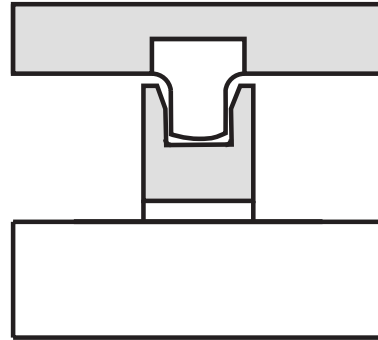

Figure 2-15
- No Torsional Effects:** All SB4 load cells incorporate a blind hole for load introduction. The load is introduced via a convex loading pin as seen in Figure 2-15. The convex surface allows the module's top plate to rock without twisting the cell. The load pin is centered in the load hole by a pliable polymer "O" ring. The bottom of the blind hole is located on the neutral axis of the SB4's sensing section. Therefore, torsional effects are virtually eliminated.